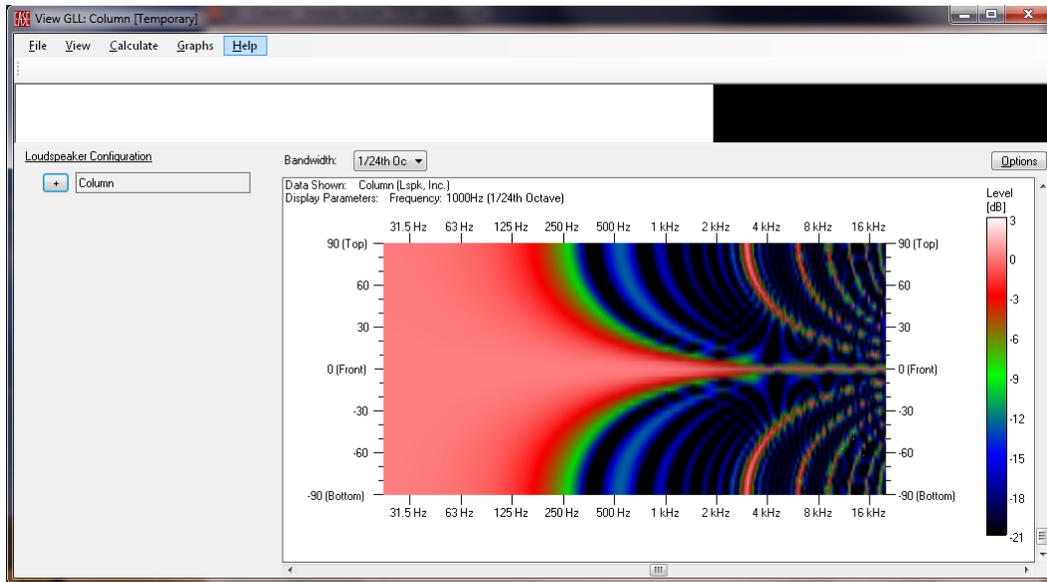

Figure 2-186 – Running GLL showing the vertical directivity map
Now run the GLL and calculate its response. In the Calculation Parameters dialog box change the BALLOON PARAMETERS RESOLUTION to INTERMEDIATE (5°). Look at the vertical directivity map (GRAPHS > VERTICAL MAP or CTRL+SHIFT+V). Change the plan view (VIEW > PLAN VIEW (Z) or ALT+Z). This will need to be done three times to have the display match Figure 2-186.
We can now run the GLL. Expand the LOUDSPEAKER CONFIGURATION of the COLUMN. We can see that the INPUT CONFIGURATION uses the STRAIGHT AHEAD configuration. Calculate the response of the GLL using the INTERMEDIATE (5°) resolution. The vertical directivity map should look the same as Figure 2-186.
The main lobe of our example GLL has a fairly narrow beamwidth above about 400 - 500 Hz (Figure 2-186). Above about 1 kHz it is very narrow and continues to decrease as frequency increases. We can open up the beamwidth somewhat by appropriately delaying the signal to the drivers. This requires that the drivers farther from the center of the array be delayed progressively more. The goal is to delay the drivers so that the virtual position of each one is on the arc of a circle whose radius is defined by the center of the array and the outer-most driver. The desired coverage angle is also defined by the position of the outer-most drivers in the array.